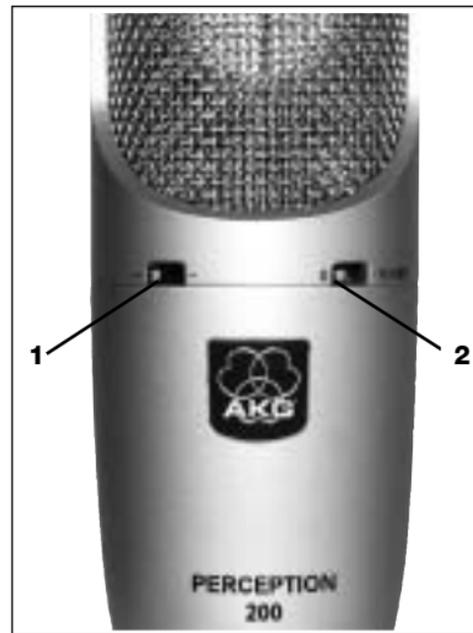

Fig. 1: Bass cut and preattenuation switches on **PERCEPTION 200** front.
- **Bass cut filter:** Selector 1 on the microphone front (refer to fig. 1) further reduces low-end distortion caused by footfall or wind noise, etc. The filter also minimizes the proximity effect that close-in miking from less than 4 inches causes in any unidirectional microphone. The filter rolls off at 12 dB/octave from 300 Hz downward.
- **Switchable preattenuation pad:** Selector 2 on the microphone front (refer to fig. 1) lets you increase the headroom by 10 dB for distortion-free close-in recording. The preattenuation pad prevents the microphone's output level, particularly at low frequencies, from overloading the miniature transformers used in many mixer input stages, etc.